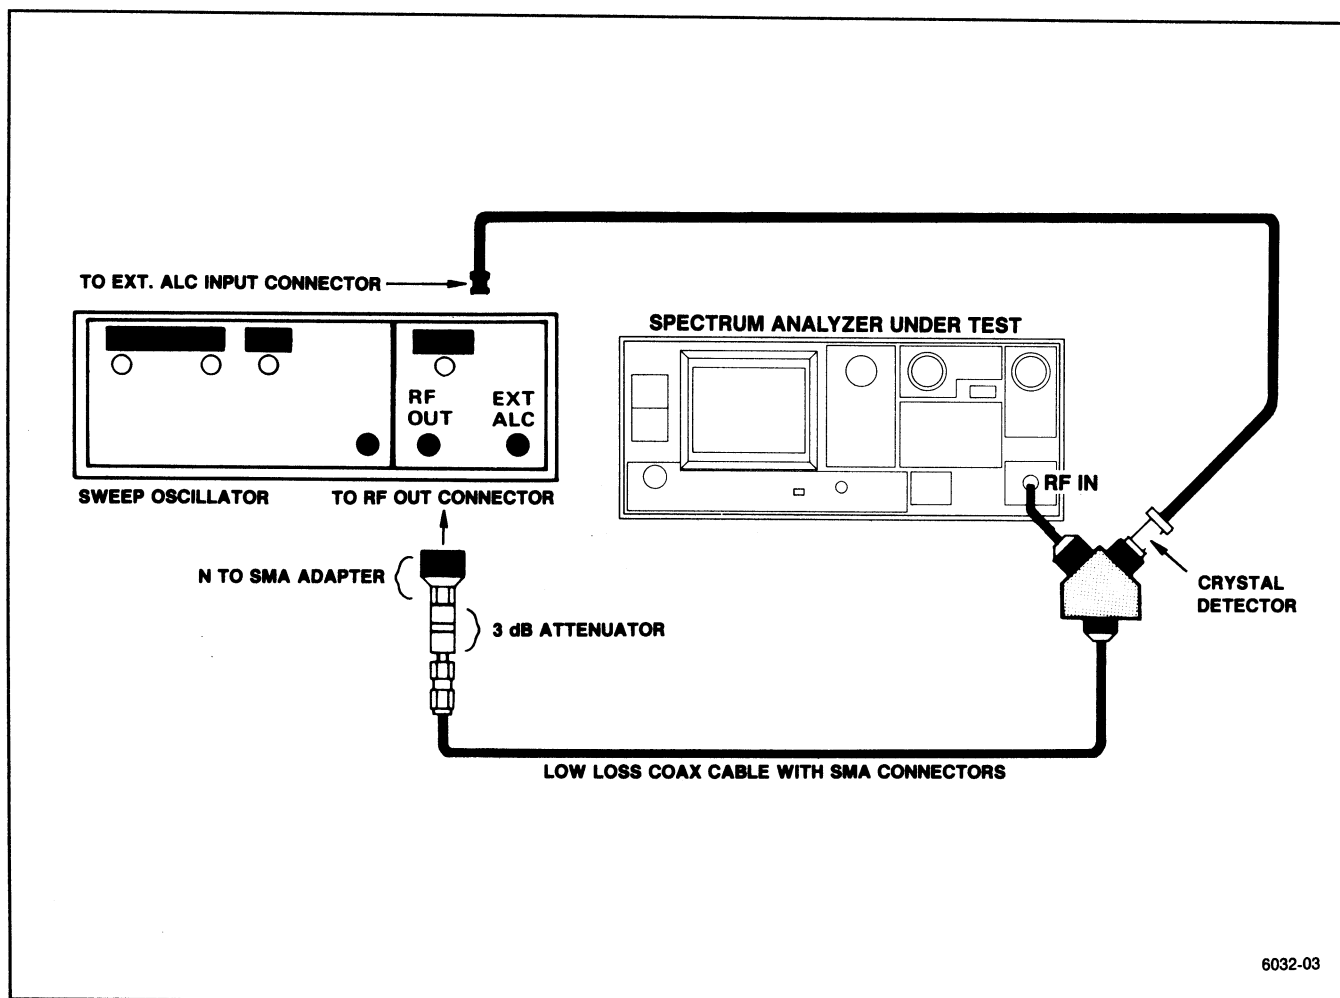

Figure 4-12. Test equipment setup for measuring 0.01 GHz to 21 GHz frequency response.
(3) Set the CAL AMPL adjustment for 5 divisions on the Spectrum Analyzer display. This is the 100 MHz reference. Activate SAVE A to save the reference.
(4) Connect the test equipment as shown in Figure 4-12.
(5) Set the sweep oscillator controls for a cw output that matches the SAVE A display (output frequency of 100 MHz and an output amplitude of approximately -20 dBm).
(6) Deactivate SAVE A. Reset the FREQUENCY to 500 MHz, and SPAN/DIV to 100 MHz, and activate MAX HOLD.
(7) Reset the sweep oscillator controls for a sweep output from 0.01 GHz—1 GHz. Enable single sweep on the sweep oscillator.